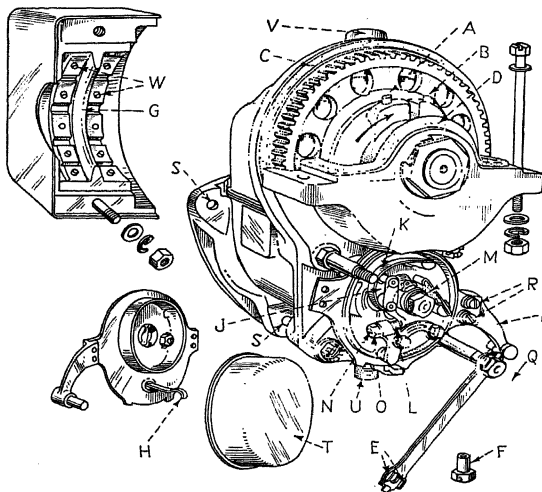

FIG. 46.—Details of Rolls-Royce magneto for use in timing.
**Magneto.**—Each magneto fires one plug in each of the 12 cylinders, as explained, and is marked according to its respective side, namely, "A" for the right hand (A) side of the engine and "B" for the left-hand (B) side. Figure 46 shows the left-hand magneto with its high-tension distributor cover and contact breaker cover removed. The contact breaker housing is also shown separately at the left-hand side to indicate the low-tension connection H.